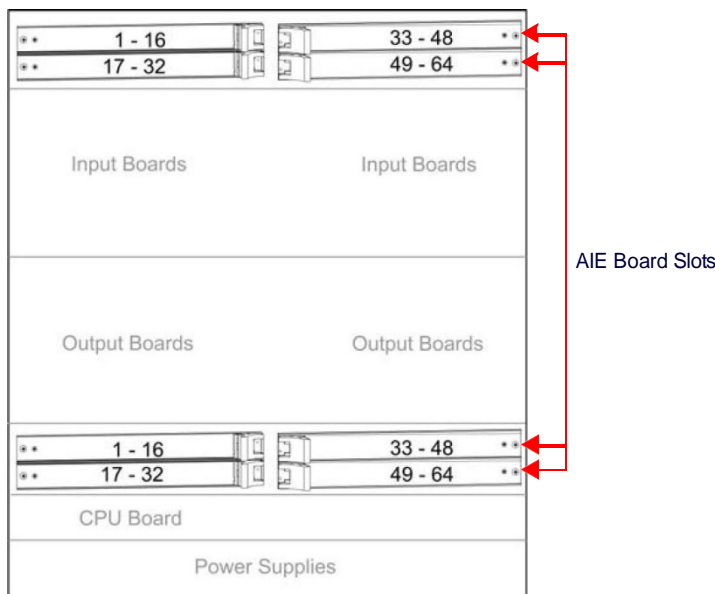

FIG. 108 AIE Board slot numbering on Enova DGX 6400
1. Check the numbering on the overlay to determine which board it applies to (see FIG. 108 below), although for the AIE boards in the right half of the cage highlighted with the red arrows, the numbering will count in the opposite direction from FIG 108 and will match what is stated in the 'Important' note above.
4. Repeat Steps 1 through 3 as necessary for the remaining overlays (FIG. 108):